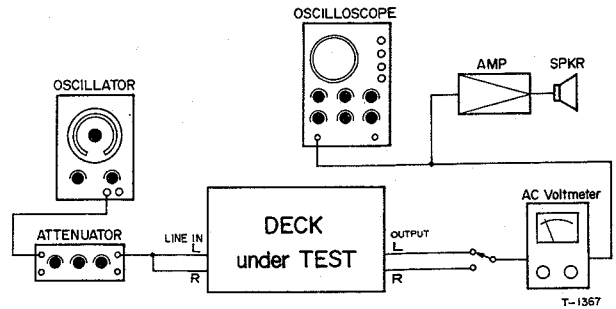

Fig. 6-8 Connection
11. Change the connection of the AC Voltmeter to the OUTPUT jacks as shown in Fig. 6-8.
1. Connect the deck and the test equipment as shown in Fig. 6-8 on page 23.
1. Connect the deck and the test equipment as shown in Fig. 6-8.